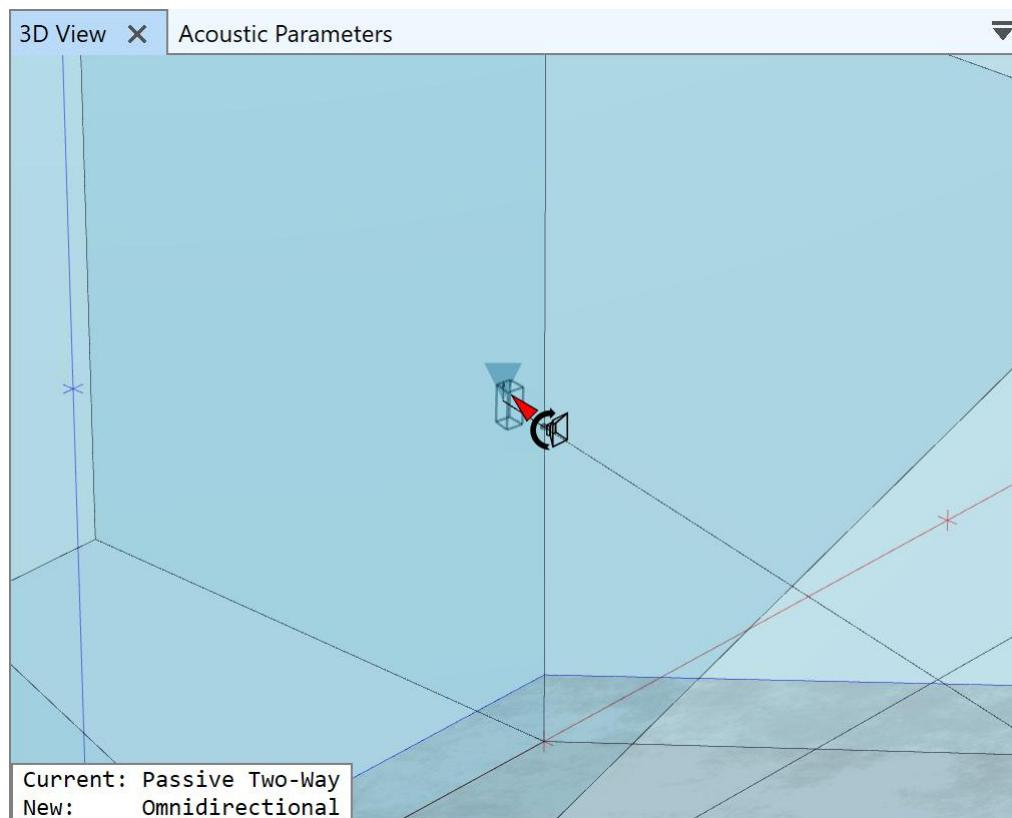

Figure 9.7 Replacing the speaker model of a loudspeaker. The status text shows the current speaker model and the new one.
1. Assuming that no loudspeakers are selected, choose a new speaker model from the search list  or tiles display. This will activate a mouse mode and the mouse cursor will change to the  symbol accordingly to indicate the mode. When in this mode, hovering over a loudspeaker in the room model will show its current speaker model as well as the potentially new one in the status text (Figure 9.7). Left-clicking on the loudspeaker will replace the speaker model. The mode remains activated to allow switching several loudspeakers in a row.